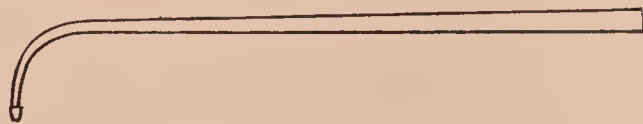
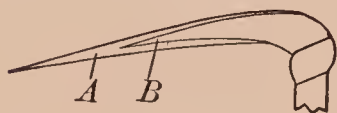

FIG. 66. — Blowpipe
FIG. 68. — Blowpipe
**A. Using the Blowpipe.** — Slip the blowpipe tube (Fig. 65) into the burner tube. Light the gas and lower the flame until it is about 4 cm. (1.5 in.) high. Rest the tip of the blowpipe (Fig. 66) on the top of the blowpipe tube, placing the tip just within the flame. Put the other end of the blowpipe between the lips, puff out the cheeks, inhale through the nose, and exhale into the blowpipe, using the cheeks somewhat as bellows. Do not blow in puffs, but produce a continuous flow of air through the blowpipe (Fig. 67). The flame should be an inner blue cone surrounded by an outer and almost invisible cone (Fig. 68).
surrounded by an outer and almost invisible cone (Fig. 68).
equal parts of sodium carbonate and lead oxide, and heat the mixture in the reducing flame (B in Fig. 68). In a short time bright, silvery globules should appear on the charcoal. Let
**C. Oxidation.** — Heat a small piece of zinc on charcoal in the oxidizing flame (A in Fig. 68). Direct the flame across the zinc so that most of the product will form a coating on the charcoal. Observe the color of the coating on the charcoal when both hot and cold.